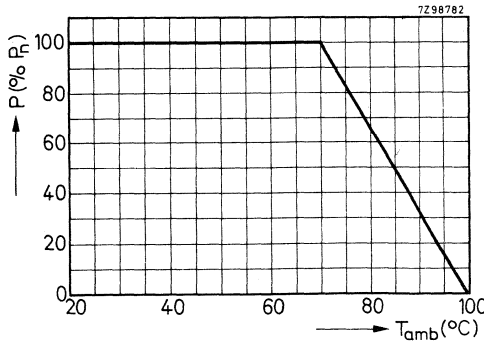

Fig.4 Dissipation as a function of the ambient temperature
at an other ambient temperature (P)	see Fig.4